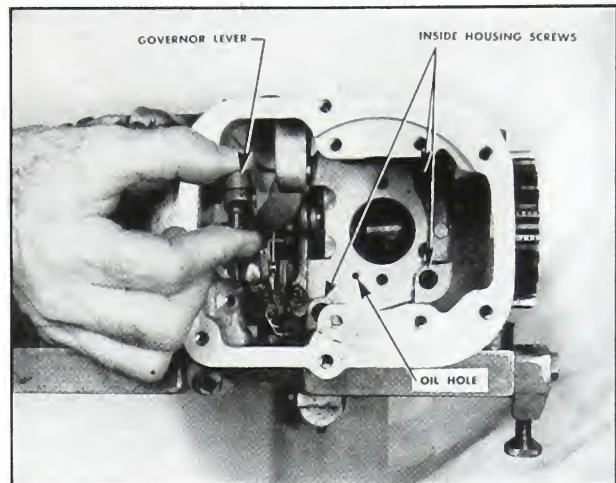

Fig. 5-336. Checking freeness of vertical lever
NOTE: Three of the housing hold-down screws are assembled inside the governor housing. Fig. 5-336.
5. Check the linkage to see that the vertical lever works freely on the cam rocker lever. Fig. 5-336.